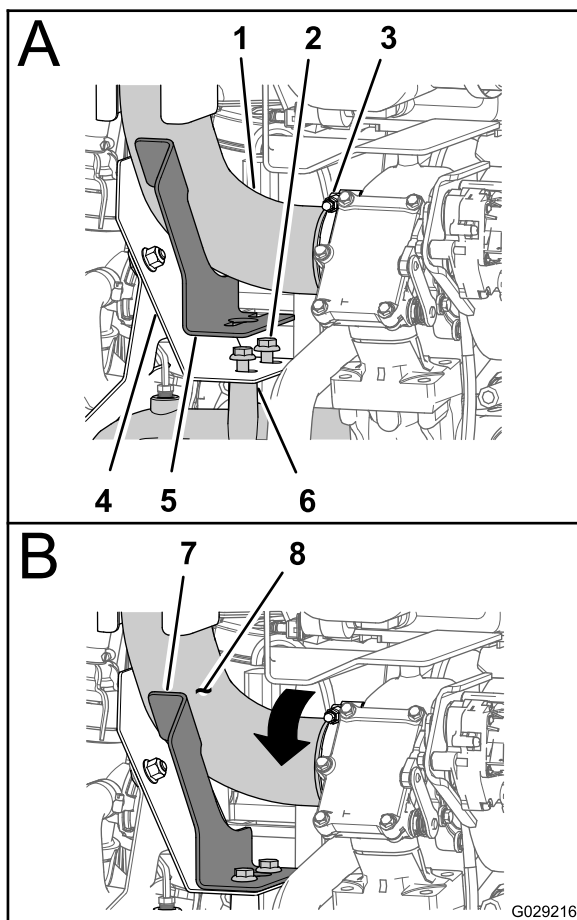

Figure 15
2. Loosen the 2 flange-head bolts (10 x 20 mm) that secure the upper-rear heatshield to the standoffs of the exhaust manifold (A of Figure 15).
3. Assemble the pipe-alignment jig onto the heatshield and under the flange-head bolts (A of Figure 15) and tighten the bolts to 17 to 21 N-m (47 to 57 ft-lb).
4. Rotate the exhaust pipe so that the surface of the pipe is flush to the small flange of the pipe-alignment jig (B of Figure 15).